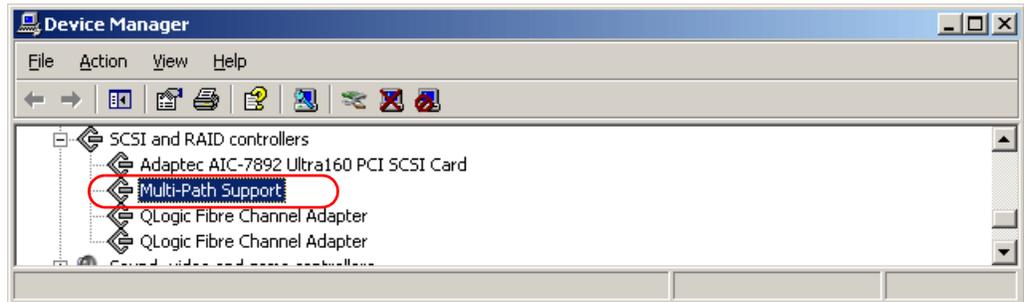
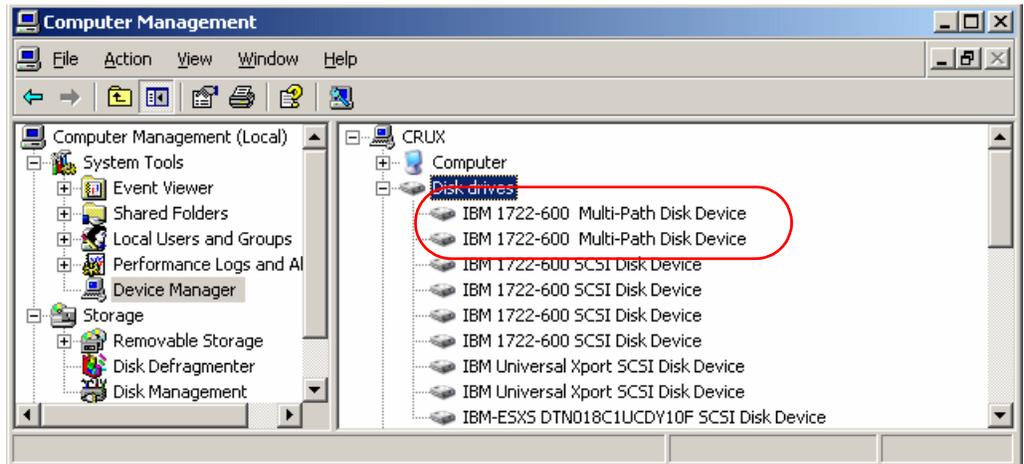

Figure 5-6 SM Failover (MPIO/DSM) Multi-Path Support
Figure 5-7 SM Failover (MPIO/DSM) Multi-Path Disk Device
2. Open the Device Manager in Computer Management. There should be a Multi-Path Support entry under the SCSI and RAID Controller folder, as shown in Figure 5-6.
3. If there are logical drives from the DS4000 already mapped to the server, you will see IBM xxx Multipath Disk Device under the Disk drives folder, where xxx is the product ID of the DS4000 storage subsystem, as shown in Figure 5-7. Note that xxx SCSI Disk Devices represent the physical devices reachable by different FC paths.
Because SDDDSM is based on MPIO, after the installation you should have entries similar to those shown in Figure 5-6 on page 185 and Figure 5-7 on page 185.